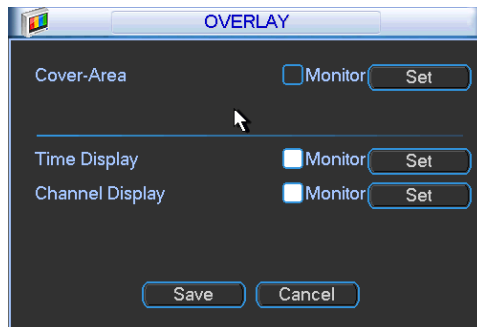
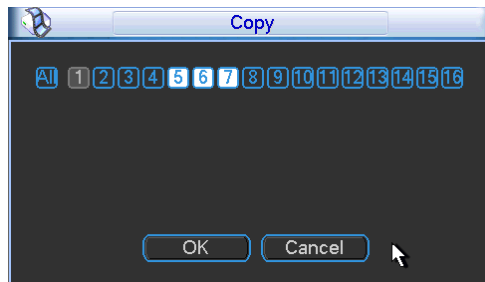

Figure 5-34
Figure 5-35
Click overlay button, you can see an interface is shown in Figure 5-34.
- Copy: After you complete the setup, you can click Copy button to copy current setup to other channel(s). You can see an interface is shown as in Figure 5-35. You can see current channel number is grey. Please check the number to select the channel or you can check the
box ALL. Please click the OK button in Figure 5-35 and Figure 5-34 respectively to complete the setup. Please note, once you check the All box, you set same encode setup for all channels. Audio/video enable box, overlay button and the copy button is shield.